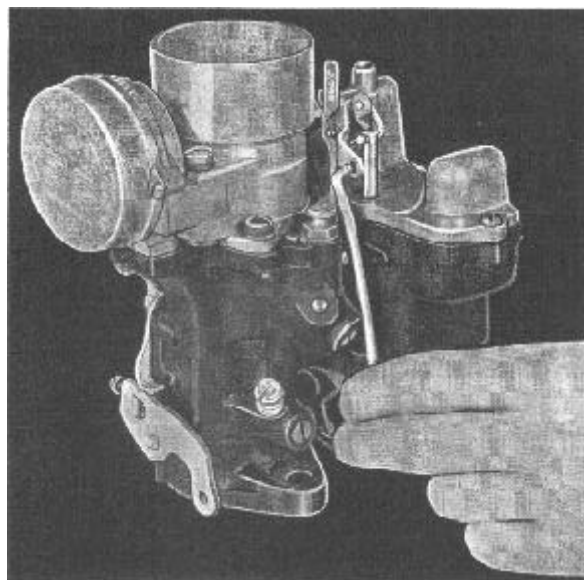

Figure 416
(68) Insert gauge (Part T 109-25) (included in tune-up kit) in place of metering rod, seating beveled end in metering rod jet. Hold gauge vertical to insure seating. Figure 416.
(69) Metering rod pin in pump arm should rest on top of gauge with throttle fully closed (adjusting screw backed off) and upper end of connector rod centering freely in its hole in pump arm. If it does not, bend lower end of throttle connector rod so that top end centers freely in hole.
(70) Remove gauge, replace metering rod and disc and metering rod spring. Be sure metering rod is in jet. If metering rod shows wear, replace it.